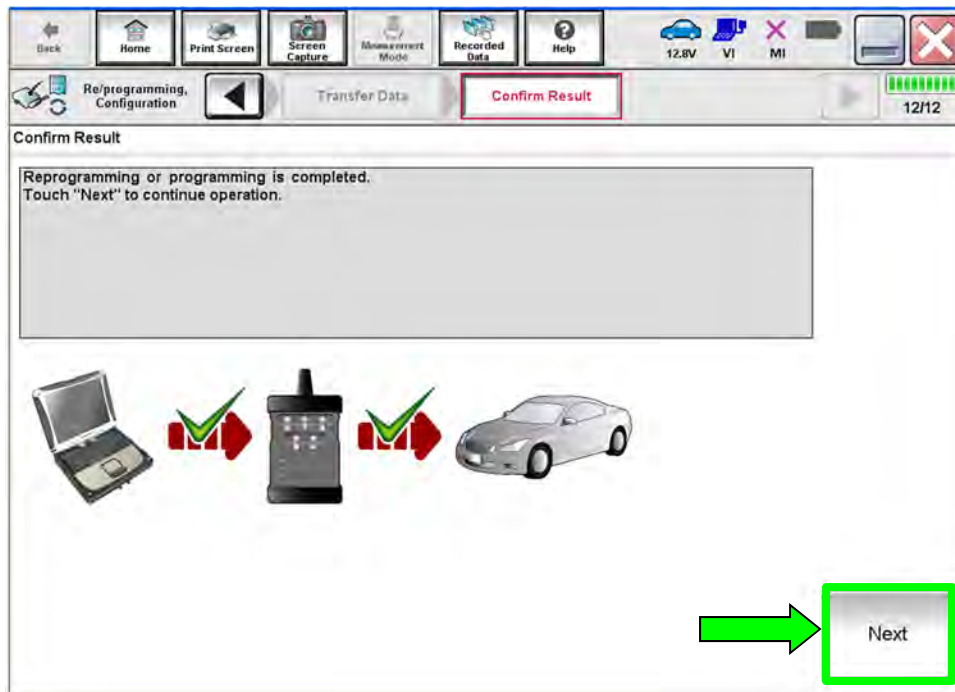

Figure 26
37. When the screen in Figure 26 displays, the reprogramming is complete.
- If the screen in Figure 26 does not display (indicating that reprogramming did not complete), refer to **Sonar Control Unit Recovery** on the next page.